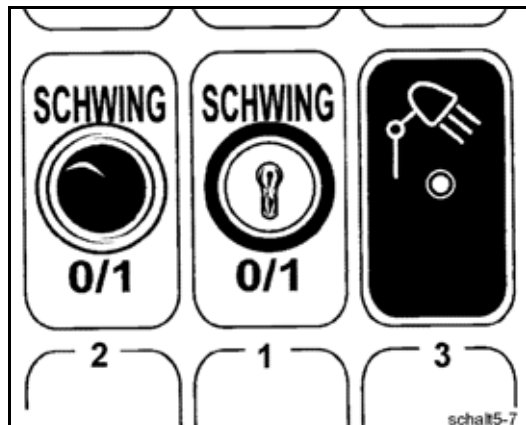

Fig. 267 Switch in the driver's cab
- Switch off the power supply of the machine control with the key-operated switch (1) **(Fig. 267)** in the driver's cab.
- Do not forget, if necessary, to switch off the side floodlights with the switch (3).